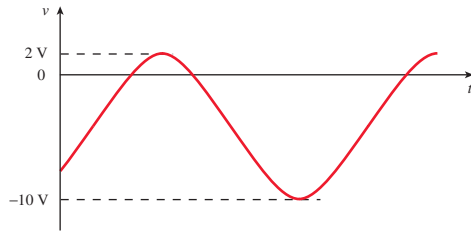

FIGURE 15-95
60. Compute the effective value for Figure 15-95.